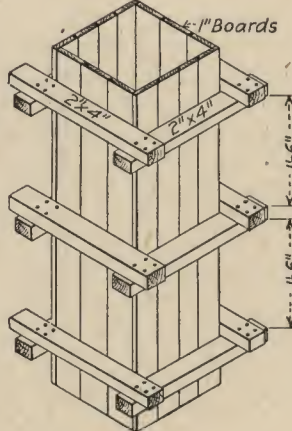

Fig. 16—Form for a short column.
73. For short *columns* or *piers* less than 5 feet high and not over 2 feet square, make the forms as shown in Figure 16.